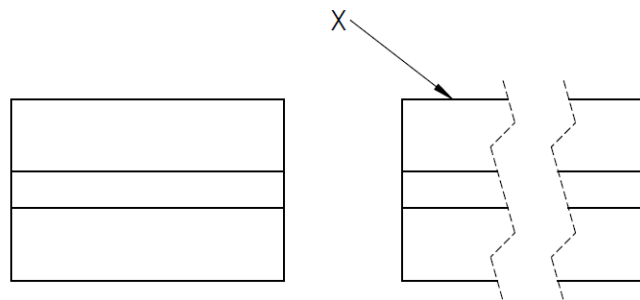

Figure 6.2
- c) What is the name of the view indicated by X in the above Figure 6.2? (5 Marks)